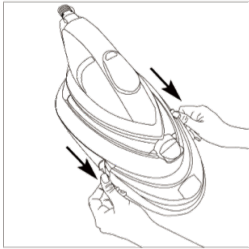

**Figure 1**
2. Immerse the new anti-scale cartridge into water for 5 minutes with one hole above the water and one hole submerged according to (Figure 1).